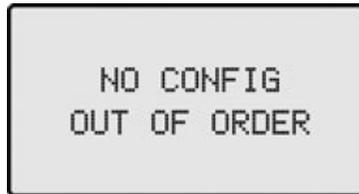

Figure 4-1 No config screen
2. Turn on the vending machine to supply power to the FacilityPro Vending 3000². After some time the display of the Atlas card reader will show as in Figure 4-1.